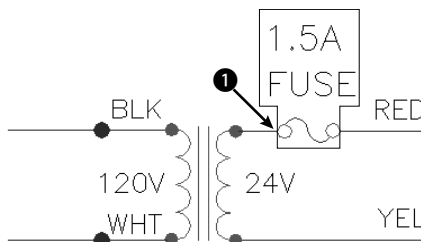

**Figure 18-4:** A portion of an electrical schematic.
2. Save the file as `ab18-01.dwg` in your AutoCAD Bible folder. This is a small portion of an electrical schematic drawing, as shown in Figure 18-4. OSNAP should be on. Set running object snaps for endpoint, quadrant, and intersection.
6. Select the boxed objects shown in Figure 18-4 (the two lines of text, the two circles, and the two arcs). Press Enter to end selection and return to the dialog box. Under the Select Objects button, the dialog box displays **6 objects selected**.
8. In the drawing, use the Quadrant object snap to pick **1** in Figure 18-4.